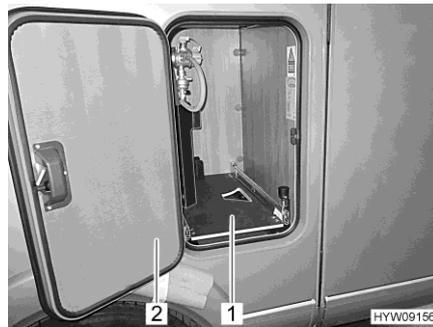

Fig. 91 Gas bottle compartment pull-out
- Open flap (Fig. 91,2) for the gas bottle compartment.
- Pull out the gas bottle compartment pull-out (Fig. 91,1) until the knob engages again. Now, the gas bottle compartment pull-out is locked in this position.